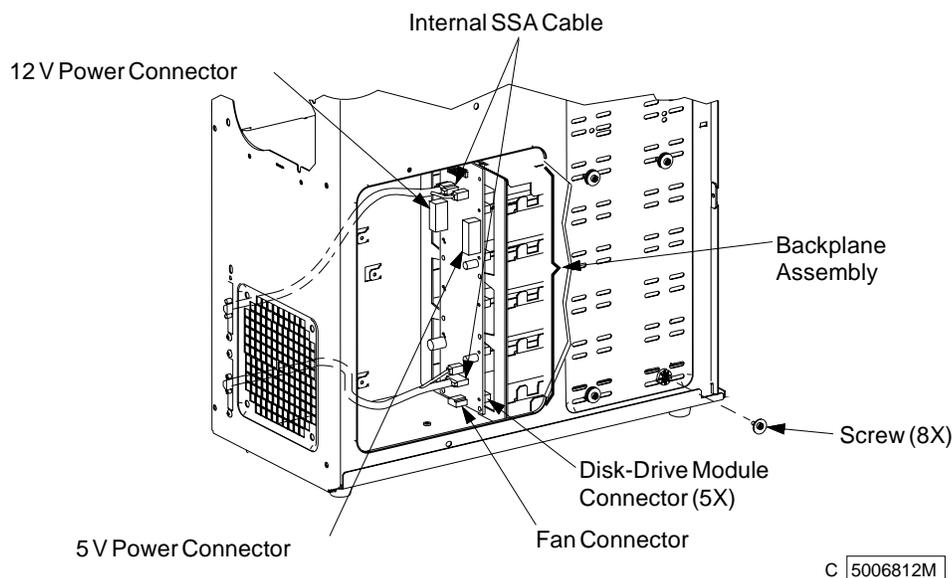

Figure 3-15. Backplane Assembly
- 6** Disconnect the power supply cables (2), the SSA cables (2), and the fan power cable from the backplane (see Figure 3-15 on page 3-17).
- 11** Remove the eight screws securing the 5 pack enclosure to the chassis (see Figure 3-15 on page 3-17).
- 6 Connect the power supply cables (2), the SSA cables (2), and the fan power cable to the backplane (see Figure 3-15).